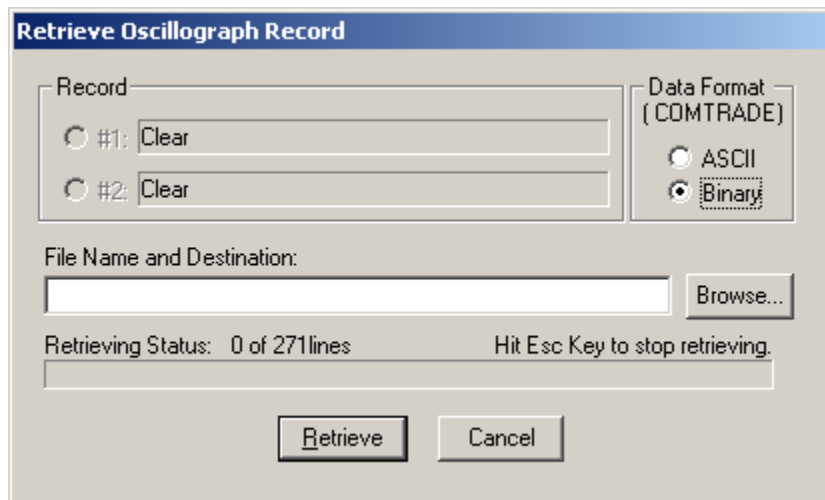

Figure 4-17 IPScom Retrieve Oscillograph Record Screen
1. Select Relay\Oscillograph\Retrieve from the IPSCom menu. IPSCom will display the retrieve oscillograph record screen (Figure 4-17) and any available oscillograph records.